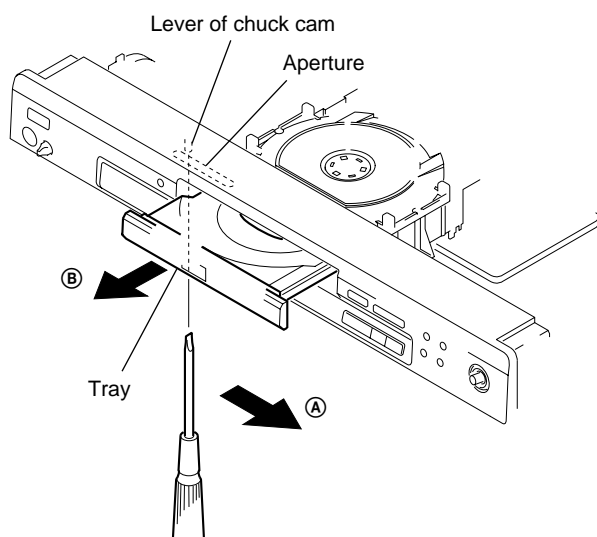

Fig. 1
- 1) Insert a tapering driver into the aperture of the unit bottom, and move the lever of chuck cam in the direction of the arrow **(A)**. (See Fig. 1)
- 2) Draw out the tray in the direction of the arrow **(B)**, and remove a disc. (See Fig. 1)